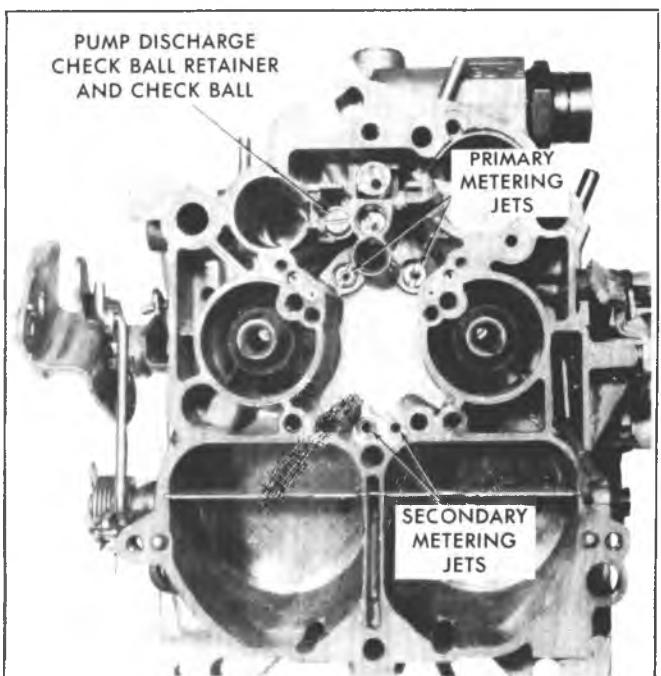

Fig. 6C4-37--Float Bowl Jets
3. Remove secondary throttle valve lock-out lever from float bowl. (Fig. 6C4-41).